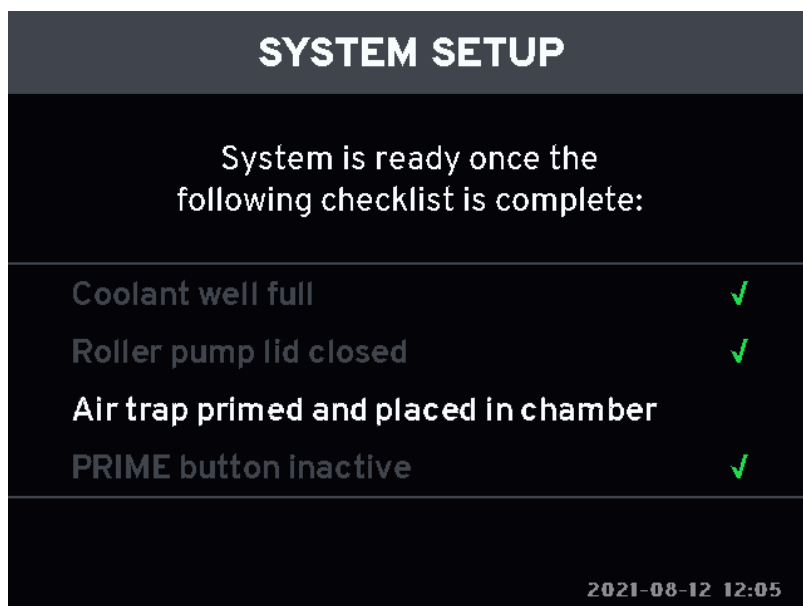

Figure 4.36. System setup checklist screen, Air trap primed and placed in chamber required
15. Install the Start-Up Kit or Surface Start-Up Kit now. If the console finishes its self test before you complete installing the Start-Up Kit or Surface Start-Up Kit, the System setup checklist screen (Figure 4.36) appears. An unchecked item requires your attention. See Table 4.1, "Setup Sensor Checks," on page 36.